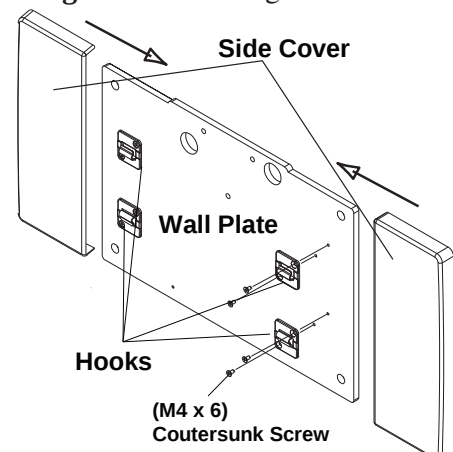

Fig.3-10 Side Cover Installation
- Slide in the side cover from right and left side of the wall plate as the hooks catch the side covers. **(Fig.3-10)**